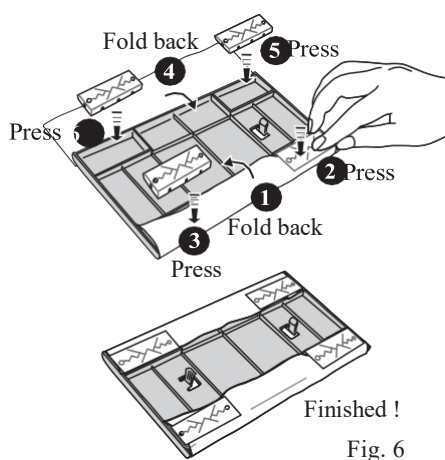

Fig. 6
3. Remove 4 stoppers from the holder, fold the hem of dusting paper on two sides back to the holder, and place back 4 stoppers on top of the paper then press firmly to fix the paper onto holder (Fig. 6).